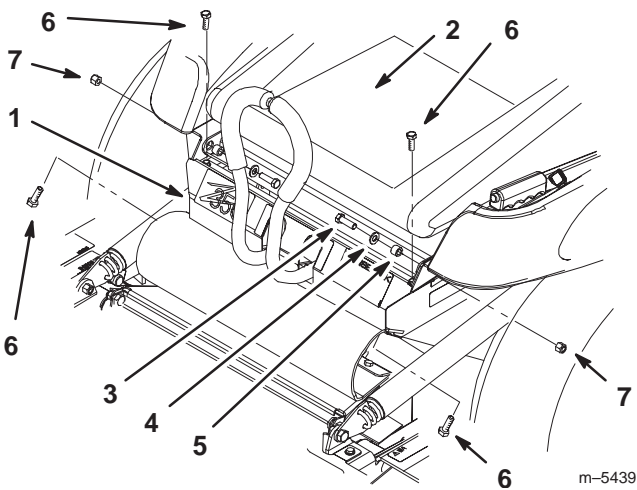

Figure 1
- 1. Remove the front cover from the machine. There are 4 bolts to be removed (Fig.1).
- 2. Remove the 2 bolts that hold the seat to the frame (Fig.1).
5. Install the seat to the machine (Fig.1).
6. Install the front cover (Fig.1).